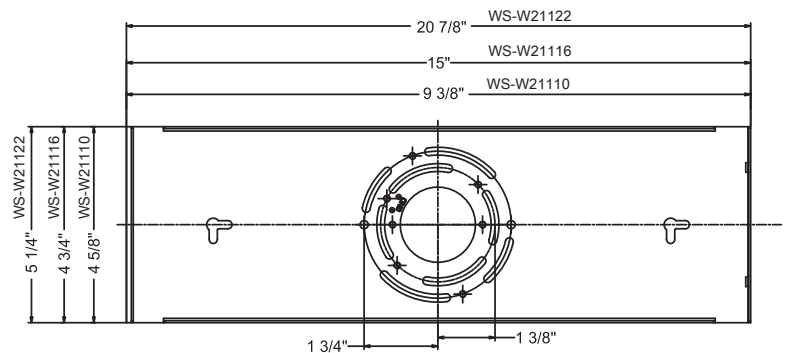
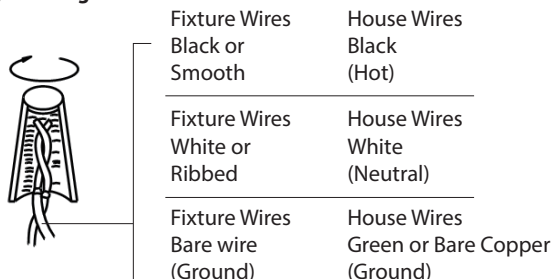

Fig. 2 Wiring
Fig. 3 Sealing
CONNECTING THE WIRES (Fig. 2)
8. Connect the fixture's wires to junction box wires as shown in (Fig. 2), making sure that all wire connectors (A) are secured. If your outlet box has a green or bare copper ground wire, connect the fixture's ground wire to it. Otherwise, connect the fixture's ground wire directly to the back plate using the screw provided. After wires are connected, tuck them carefully inside the junction box.
9. Secure the fixture to the mounting back plate using the mounting screws (B) and the silicone gaskets (C).
10. To prevent moisture from entering the outlet box and causing a short, use clear caulking (i.e. indoor/outdoor silicone sealant) to outline the outside of fixture back plate where it meets the wall. Leave a space at the bottom to allow moisture to escape (Fig. 3)